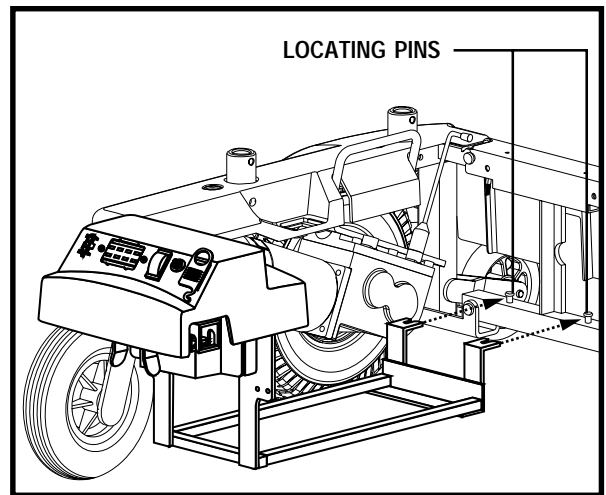

Figure 16. Connect Battery Well Frame
2. Grasp the front frame and fit the notch on the front frame bottom bar onto the locating pin on the lower section of the power base frame assembly. See figure 16.
2. Position the notches on the front of the battery well frame onto the locating pins on the front frame bottom bar. See figure 16.